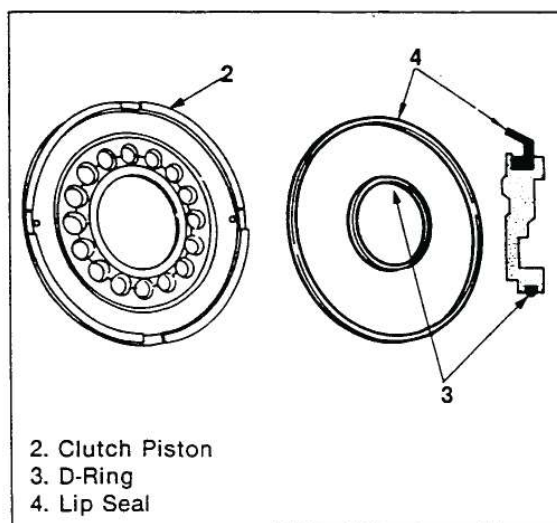

Figure 122. D-Ring and Lip Seal Installation
D-Ring and Lip Seal (Figure 122)
- Place the lip seal in the correct direction (figure 122).